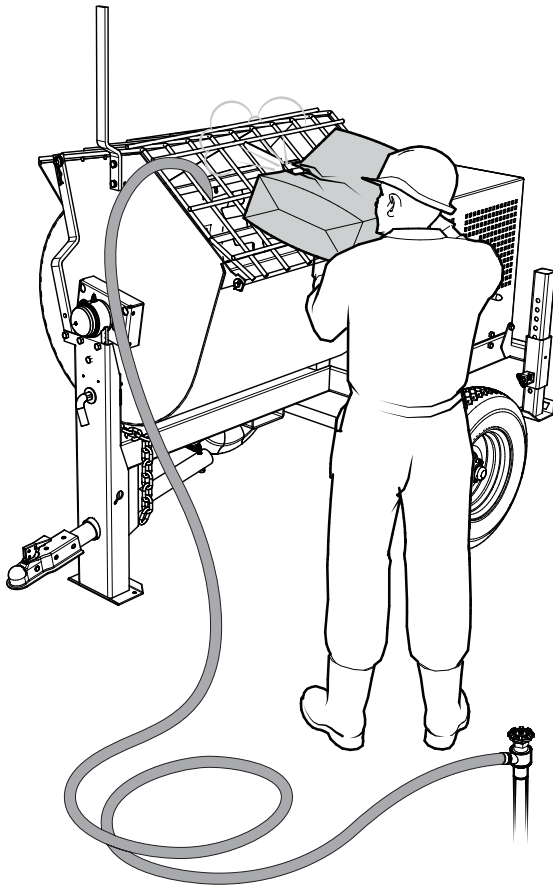

Figure 25. Filling Mixing Drum
3. Add a small amount water to the mixing drum (Figure 25).
4. Lift the mixing bag compound (Figure 25) onto the steel safety grate over the **bag cutter** and let the contents fall into the drum. Add more water if desired and mix compound to desired consistency.